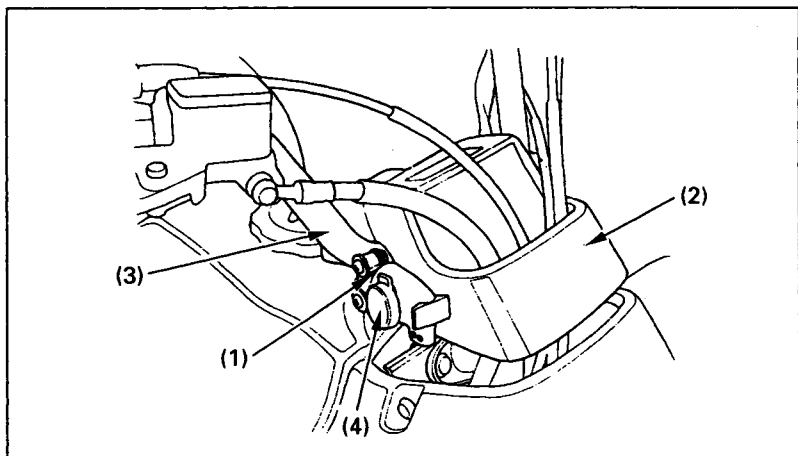

Fig. 2-24      (1) 12 V DC receptacle      (3) Right handlebar
The DC receptacle (1) (Fig. 2-24) is attached to the right handlebar, near the handlebar cover (2). The receptacle provides 12 V DC power at a maximum of 180 watts (15 amps). If you exceed this limit, you may blow the fuse. (For information on fuses, and how to replace a fuse, see pages 115–116).
(2) Handlebar cover            (4) Special DC plug
Electrical accessories may be connected to the receptacle by using the special DC plug (4) (Fig. 2-24) that comes attached to the receptacle. Be sure to use only accessories that are designed for 12 V DC power.
1. Remove the plug (4) from the receptacle (1) (Fig. 2-24).